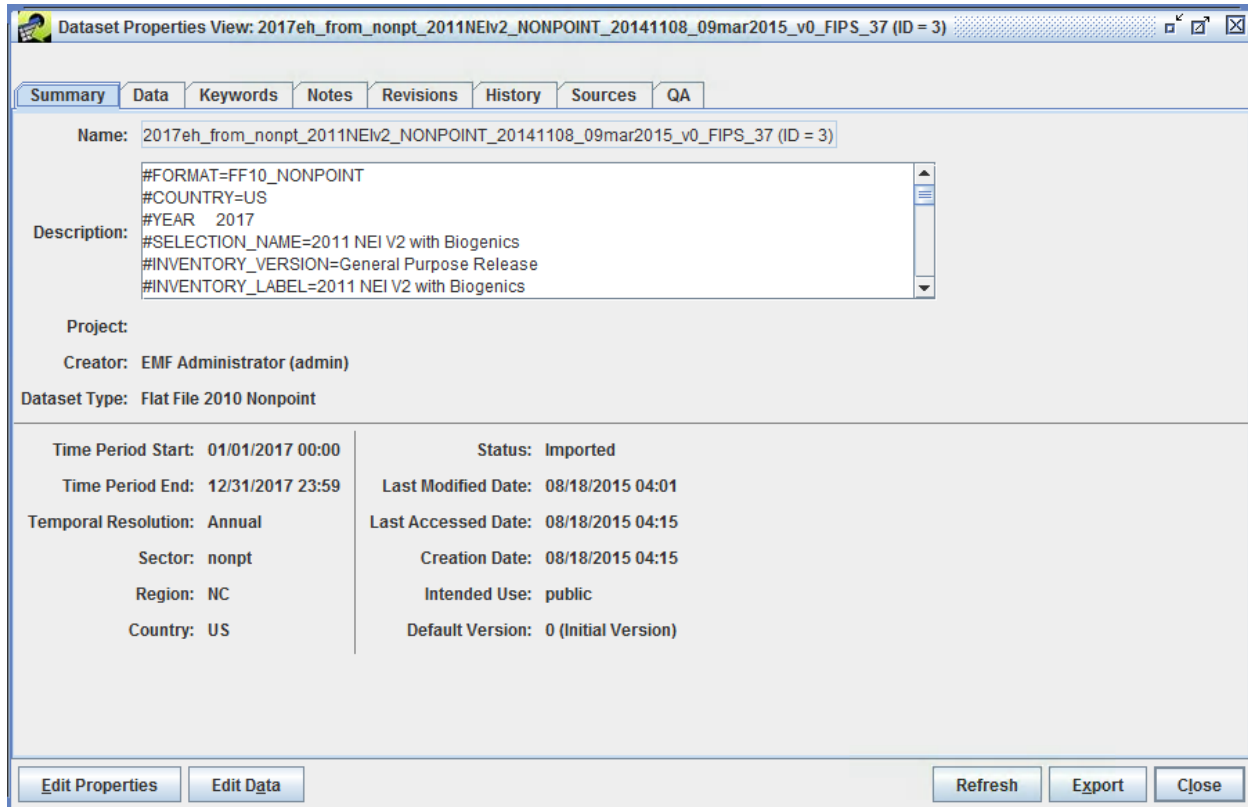

Figure 4.9: Dataset Properties View Window for an Emissions Inventory
**Step 4-15: View Dataset Properties.** To see the properties (i.e., metadata) for an inventory dataset, click the checkbox in the **Select** column of the **Inventories to Process** table and then click **View**. The **Dataset Properties View** window will appear (Figure 4.9). The **Dataset Properties View** window provides information about the selected inventory dataset and has multiple tabs as described in Table 4.5.